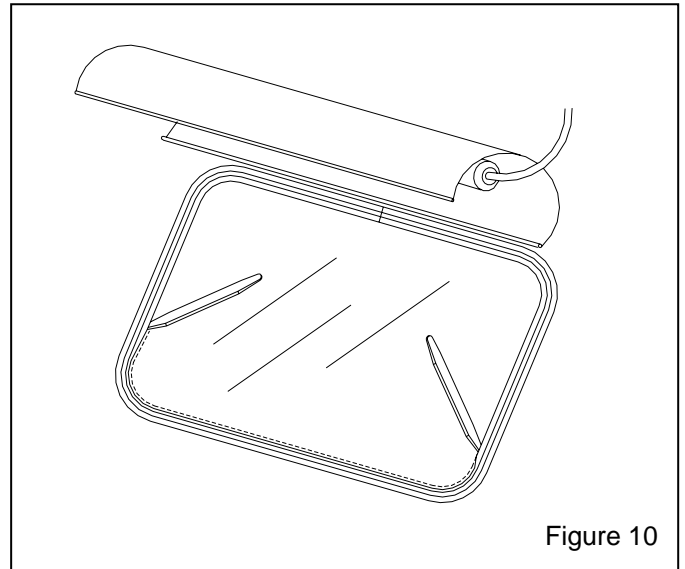

Figure 10
6.3.7. Use a nylon window stick, Stock No. 22933, as shown in Figure 10, and work the window channel lip over the glass. When this is done, the window should be entirely within the molding's window channel.